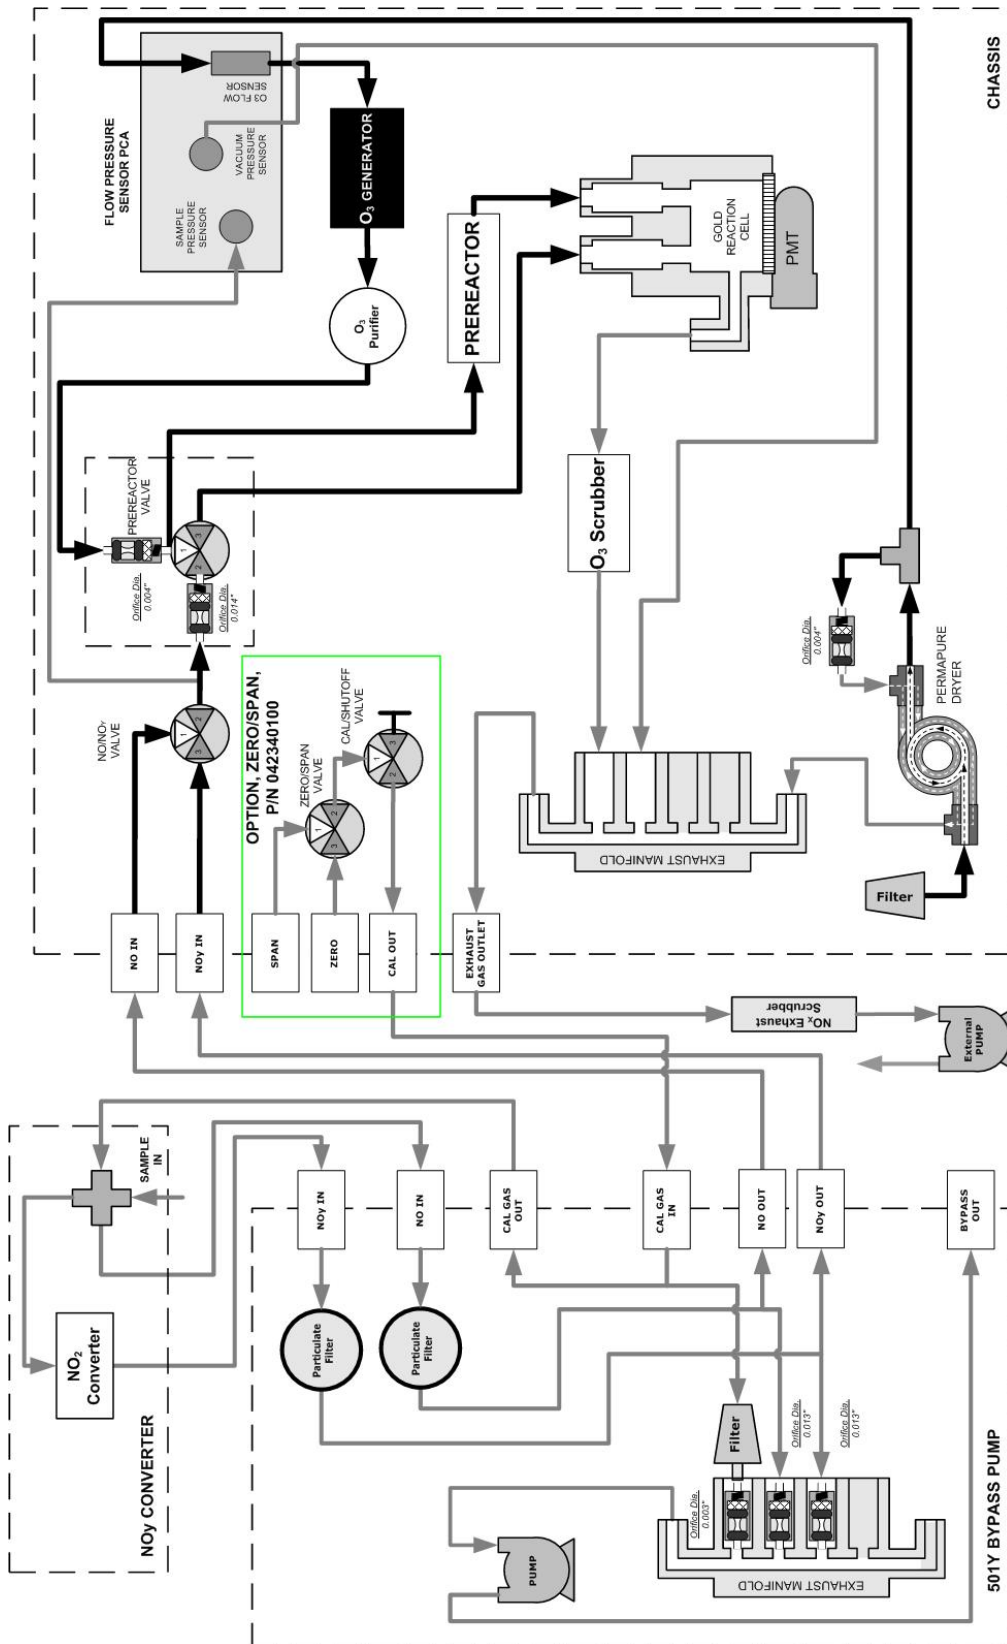

Figure 7 Pneumatic Diagram
**Figure 7** illustrates the pneumatics of the analyzer, 501Y bypass pump and Converter system.